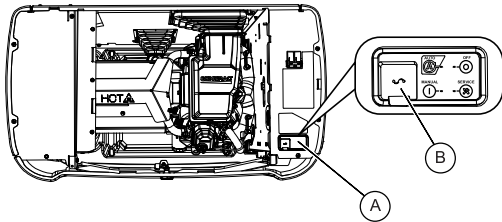

Figure 3-7. Generator Control Panel
See Figure 3-7. The control panel interface (A) is located under the enclosure lid. Open lid as directed in Opening Generator Lid.